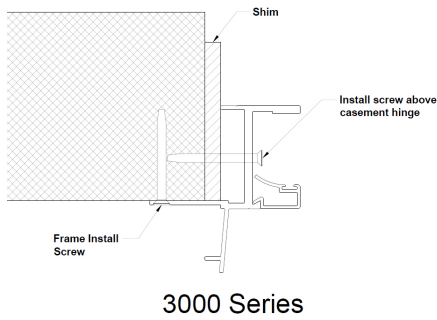

Figure 6a
8. If a window has a casement, add #10 x 2 1/2" stainless steel screws through the frame 2" above the top screw of each butt hinge. Make sure there are shims at the screw locations to prevent frame from collapsing. (See Figures 6a – 6d) Seal all screw heads.